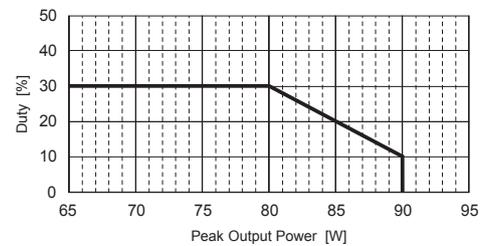

Fig.6.3 Duty of peak output power (TECS65F-H)
- $\text{Duty} = \frac{t_1}{t_1 + t_2} \times 100[\%]$ Refer to Fig 6.3 derating